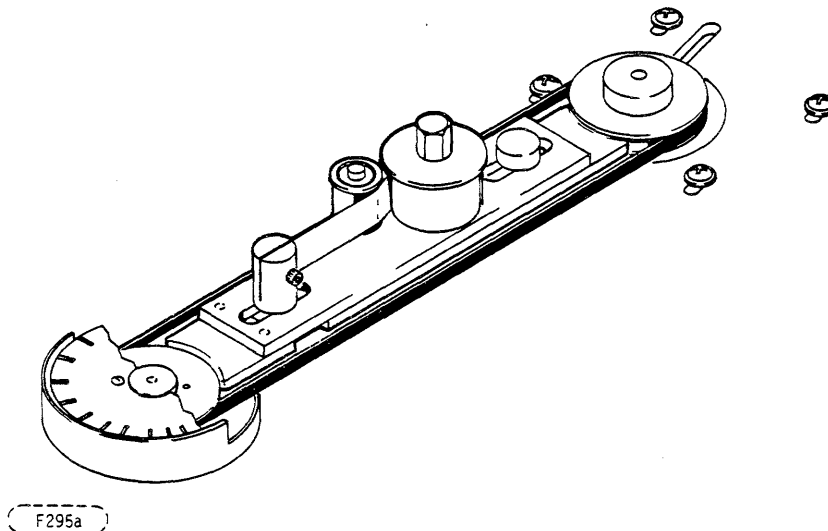

FIGURE 6-5. BELT TENSION GAGE
4. Place belt tensioning tool between the two pulleys such that the stepped end of the tool engages the groove of the spindle pulley, and the opposite end engages the groove of the motor pulley (see Figure 6-5).